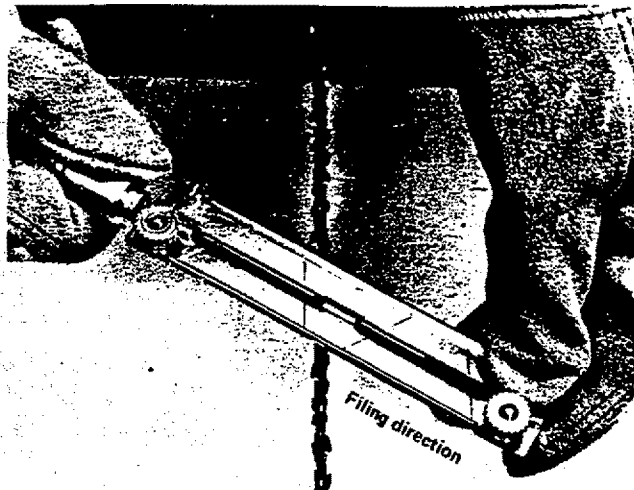

Fig. 22
1. Tension chain so it will be snug, won't rock or wobble on the bar. Figure 22.